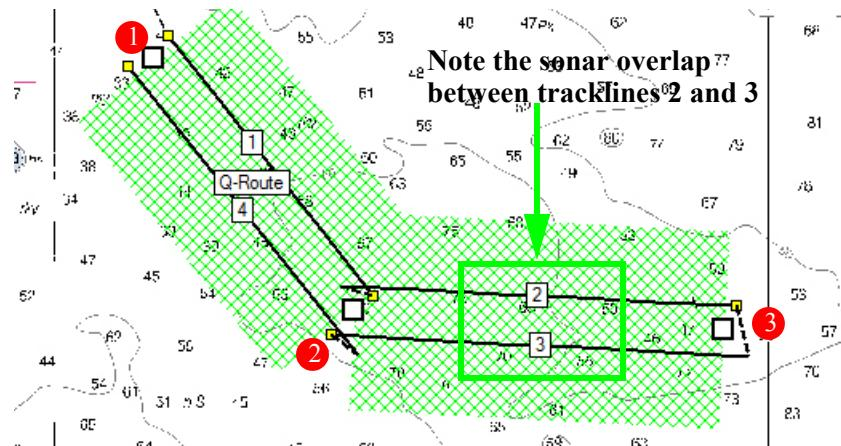

Figure 60: Completed Q-Route Survey
4. Continue placing outbound points until you reach the final point of your survey, then right-click to place the final outbound point. Planner generates and displays the completed survey (Figure 60).